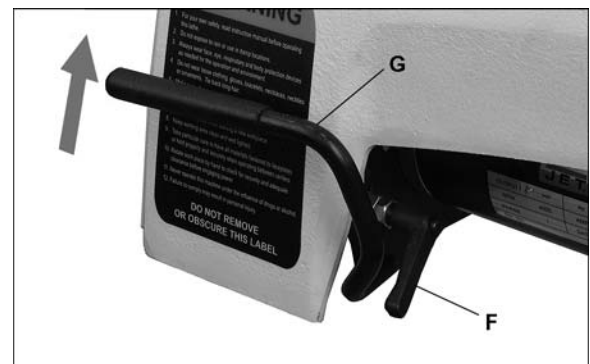

Figure 15
2. Relieve belt tension by loosening handle (F, Figure 15), then pulling up lever (G).
4. Push lever (G) down to tension belt.
5. Tighten handle (F) and close access doors.
Your lathe provides 24 indexing positions. These are identified by inscribed numbers on the spindle pulley (H, Figure 15)